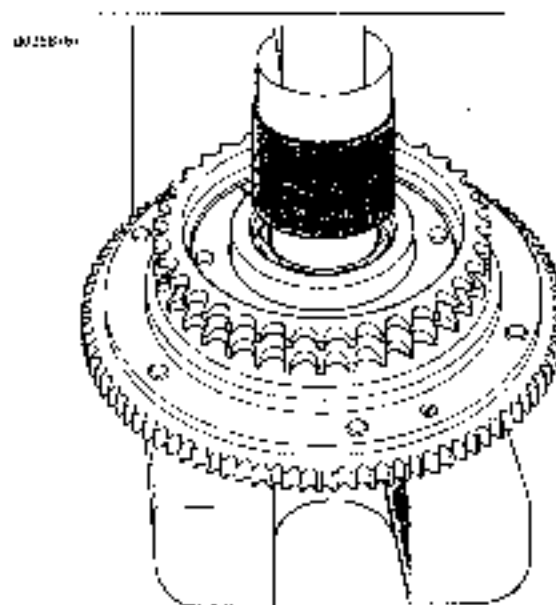

Figure 6-22. Pressing Bearing From Clutch Shell
- 5 See Figure 6-22. Turn clutch shell over so that sprocket side is up. Using arbor press and a suitable press plug press on inner race to remove bearing from clutch shell bore.